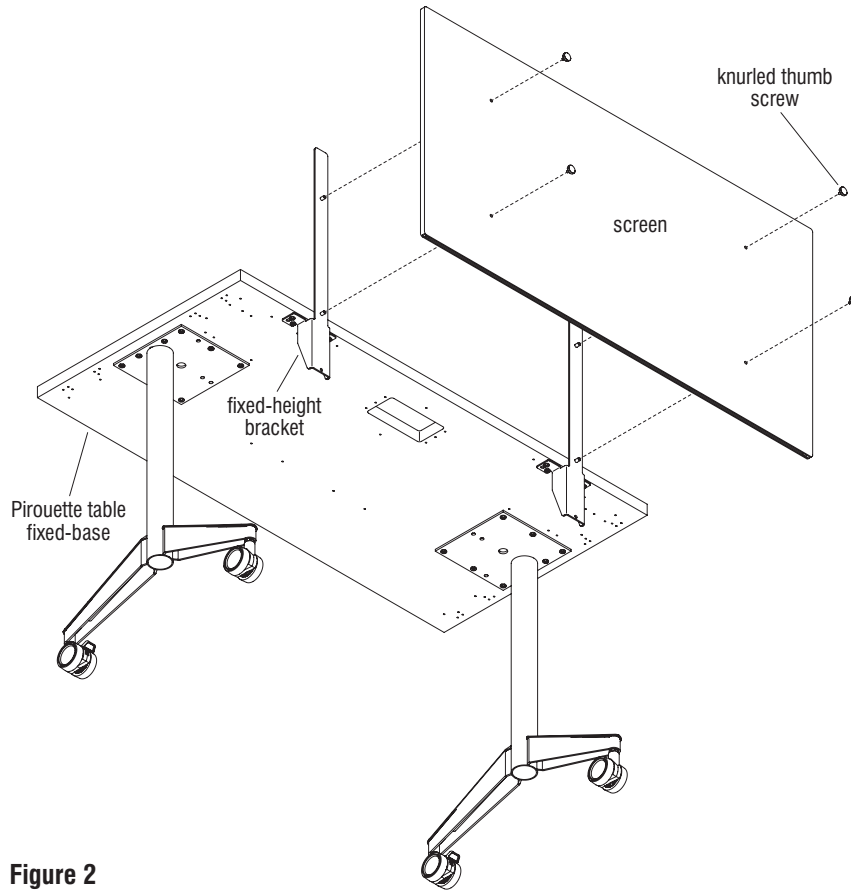

Figure 2
3. Once all fixed-height brackets are installed, align the mounting holes of the screen to the corresponding inserts on the back of the brackets. Press the screen against the backs of the rails. Secure the screen to the rails using two knurled thumb screws per bracket (Figure 2).